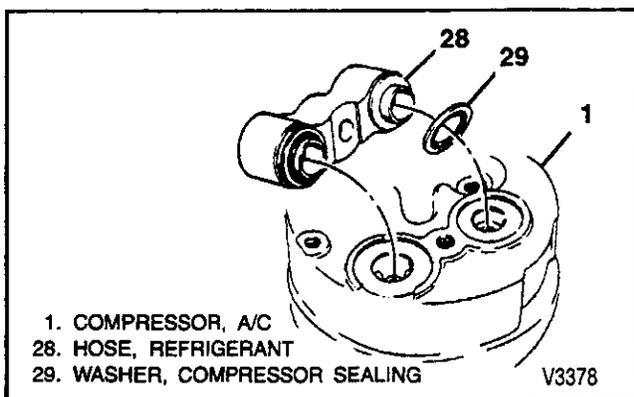

Figure 24—Sealing Washer Installation (1 of 2)
1. Install sealing washer onto pilots of suction/discharge block fitting. Washers must “bottom” against surface of block fitting (figure 24).